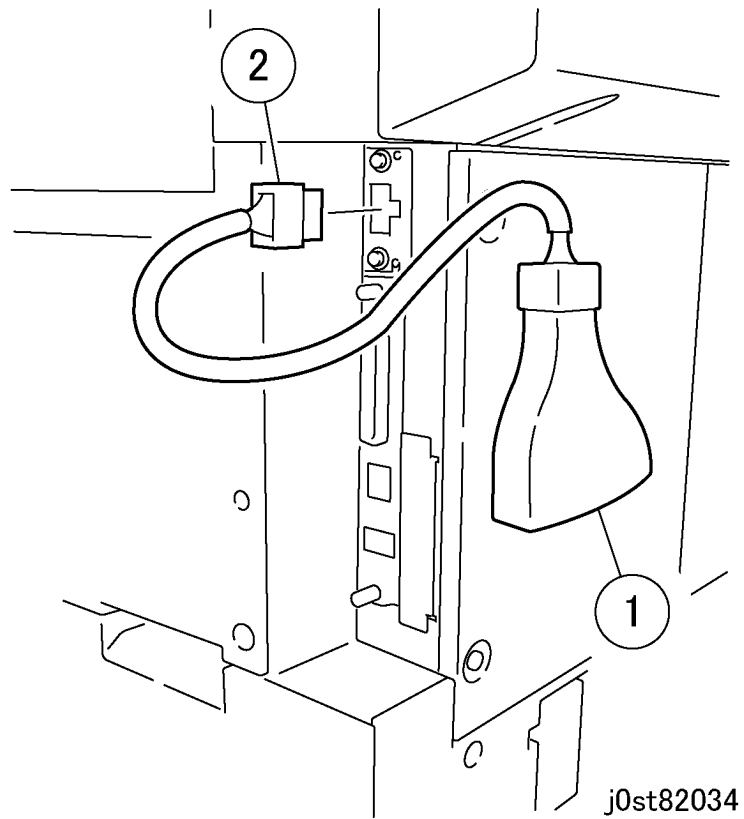

Figure 4 Connecting the Foreign Interface (j0st82034)
4. Connect the Foreign Interface to the Accessory IF PWB. (Figure 4)